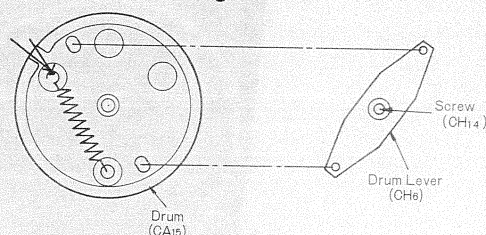

Fig. 3
3. Insert the protuberances of drum lever in the hole of dial drum, as illustrated in fig. 3.